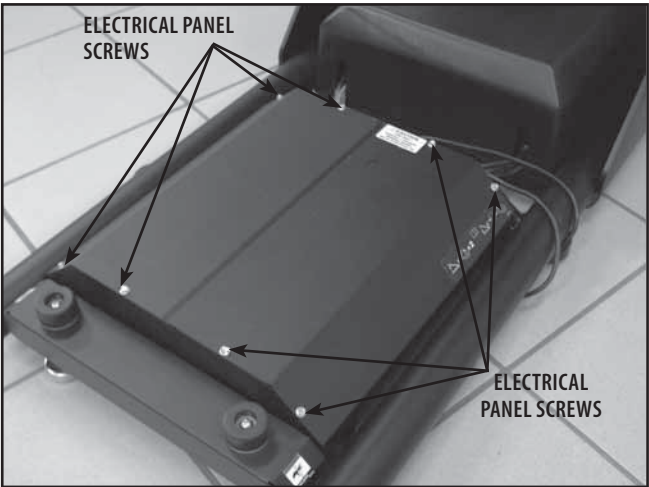

FIGURE 5.1
2. Remove the Electrical Panel Cover Retaining Screws and lay the covers aside. See Figure 5.1.
2. Remove the Electrical Panel Cover Retaining Screws and lay the covers aside. **Refer to Figure 5.1.**